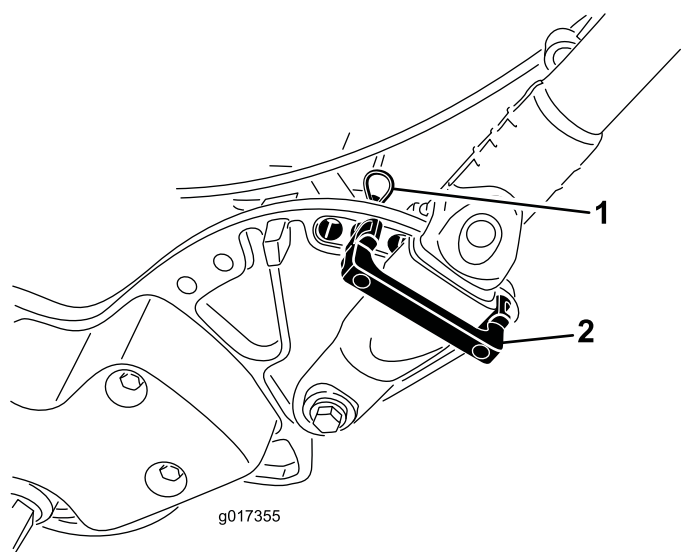

Figure 9
1. While supporting the handle, remove the cable ties that secure the handle clamps to the side plates (Figure 9).
2. Pivot the handle to the desired operating position and insert a handle retainer over the handle clamp and into the matching holes in the side plate (Figure 9).
3. Secure the clamp in position with a hairpin cotter (Figure 9).